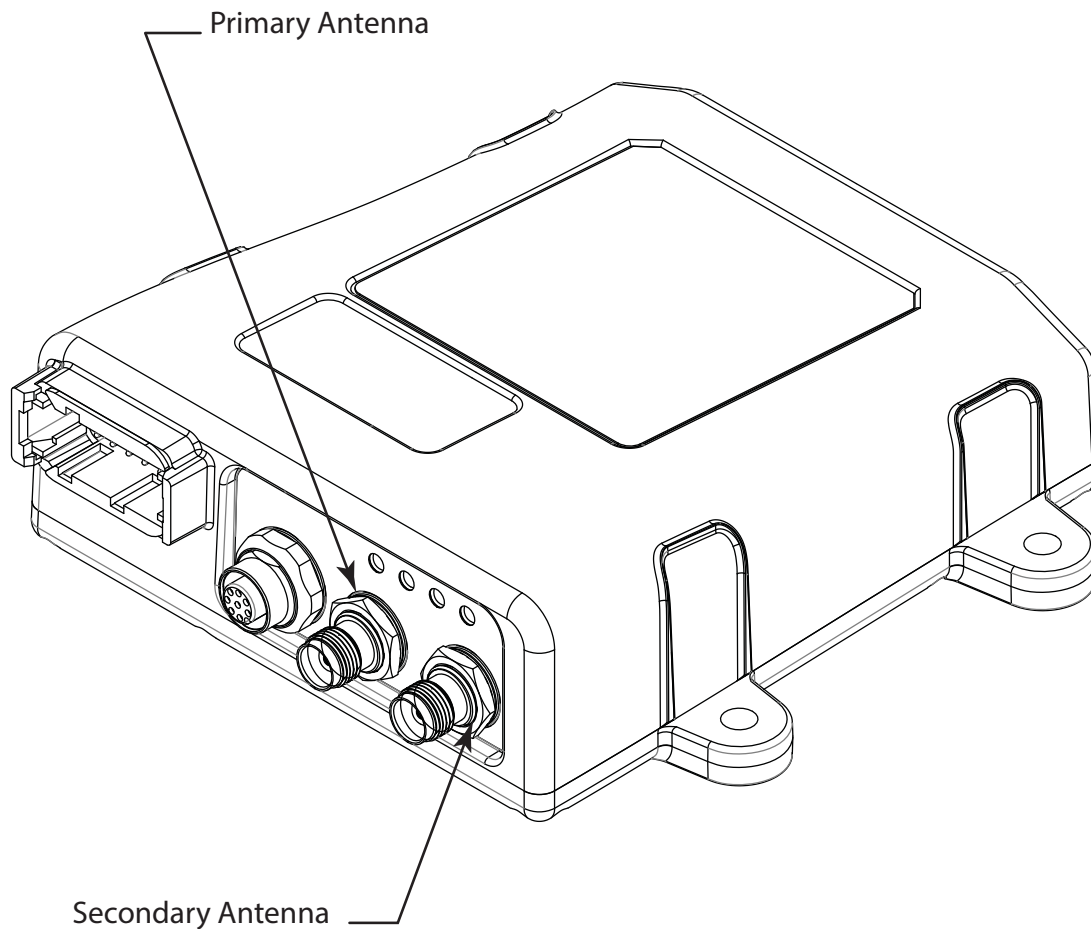

Figure 10: Antenna Connectors
2. Connect the primary antenna cable to the rear antenna and to the primary antenna connector (Figure 10) of the MR-2.